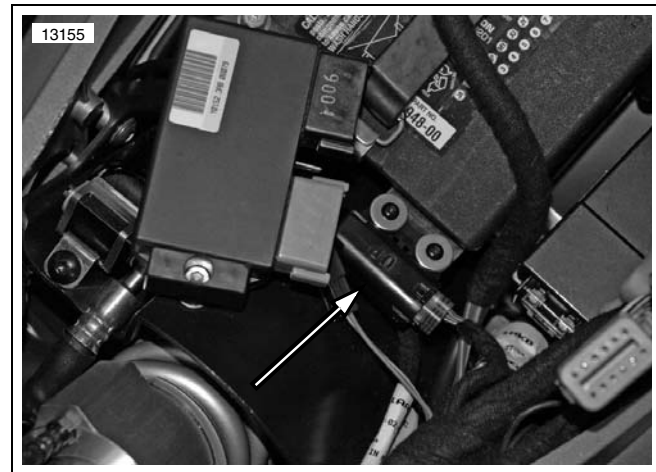

Figure 1. Bank Angle Sensor (current location)
3. See Figure 1. Remove screws and washers to detach BAS.